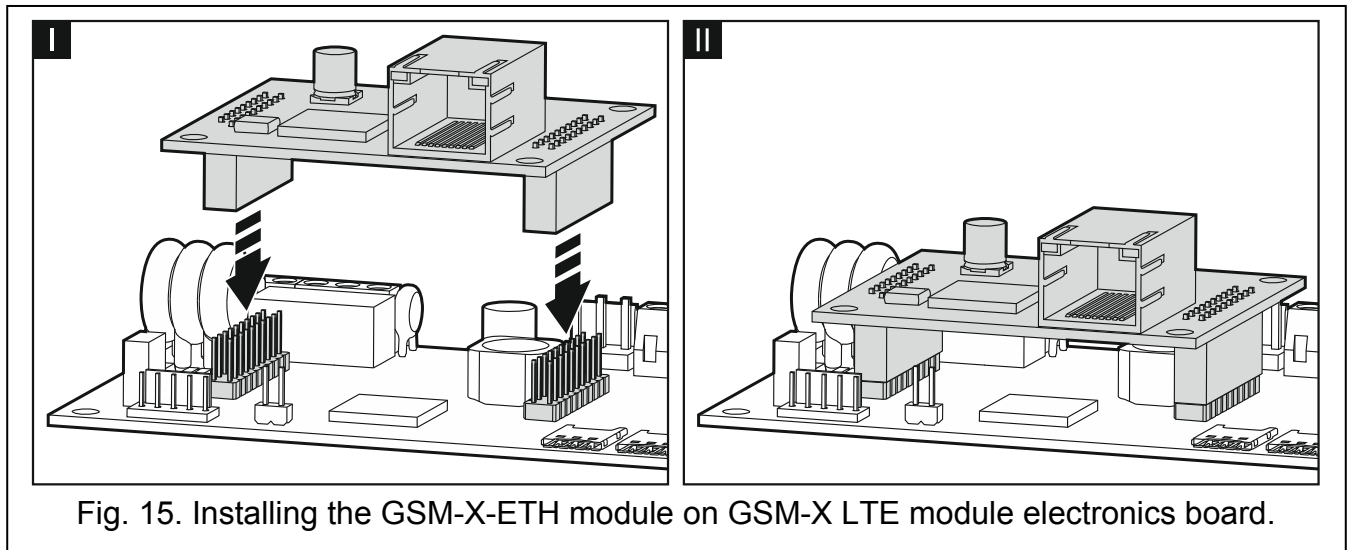

Fig. 15. Installing the GSM-X-ETH module on GSM-X LTE module electronics board.
3. Install the GSM-X-ETH Ethernet module in the connectors on the GSM-X LTE module electronics board (Fig. 15).